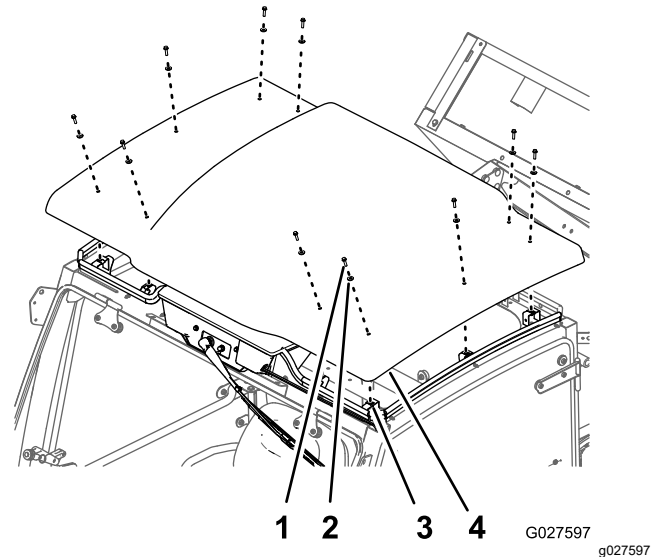

Figure 33
1. Remove the 10 bolts (1/4 x 1 inch) and 10 sealing washers (1/4 inch) that secure the roof panel to the roof-support brackets of the cab (Figure 33).